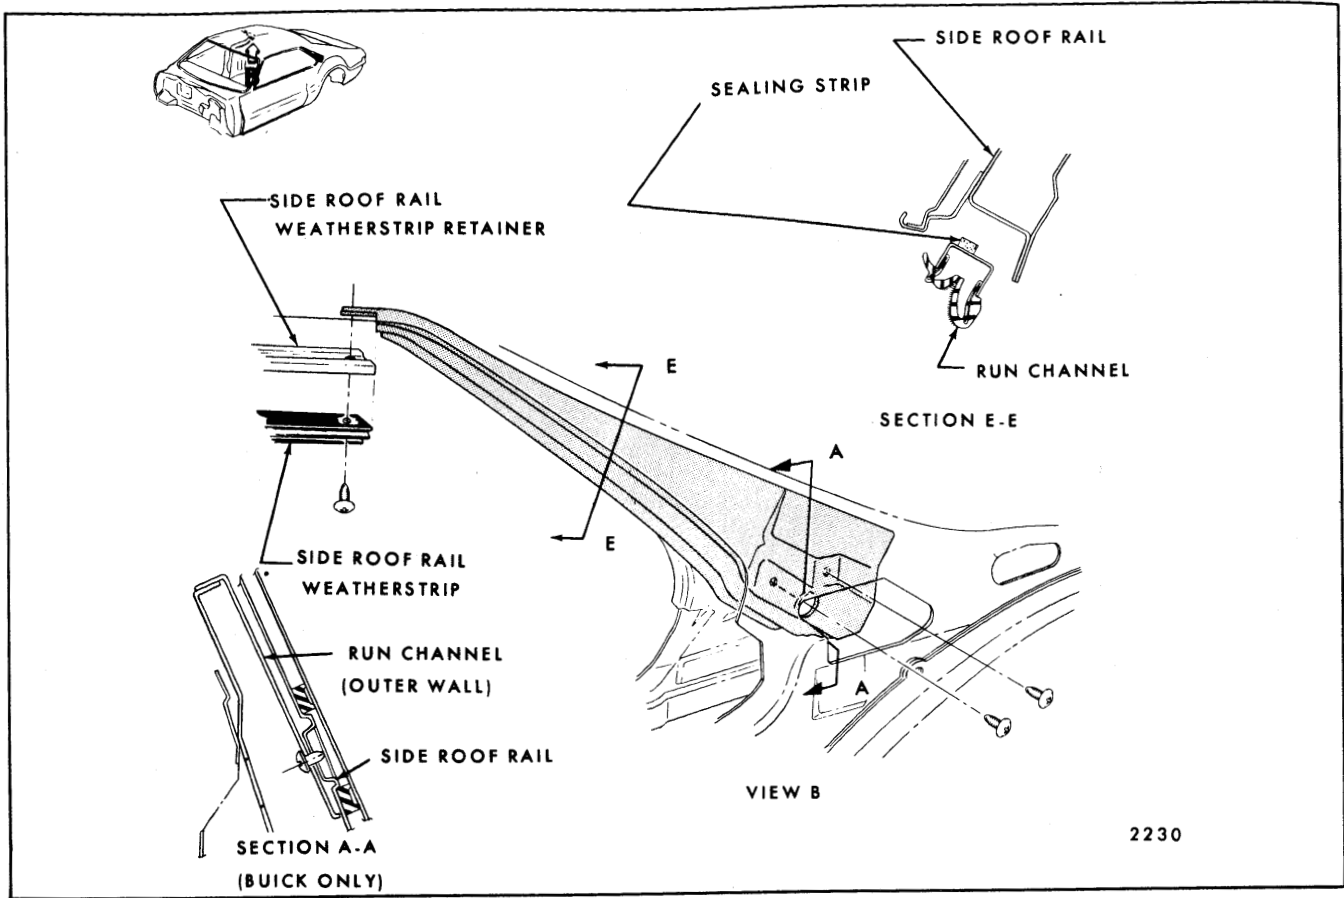

Fig. 8-65—Rear Quarter Window Upper Glass Run Channel - "E" Body Styles
2. Remove screw securing side roof rail weatherstrip, weatherstrip retainer and rear quarter window run channel to side roof rail (see View "B" in Fig. 8-65).
3. Remove screw securing lower end of run channel to rear quarter inner panel (see View "B" in Fig. 8-65).
4. On Buick styles, remove screw securing outer wall of run channel to side rail (see Section "A-A" in Fig. 8-65).
6. To install, reverse removal procedure. If original sealing strip (see section "E-E" in Fig. 8-65) is damaged, seal run channel to side rail with pumpable caulking compound.